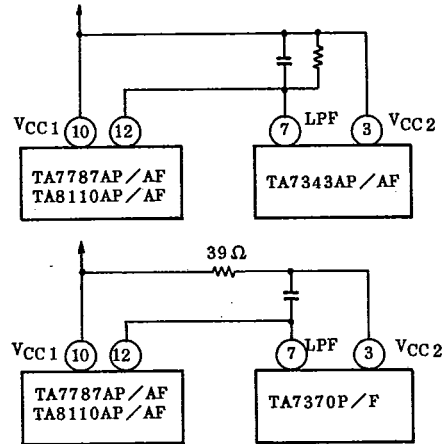

Fig.4 CONNECTION TO TA7343AP/AF AND TA7370P/F
By using (12) pin, VCO of MPX IC can be stopped. The output circuit is shown in Fig.3, and the connections to MPX ICs (TA7370P/F and TA7343AP/AF) are shown in Fig.4.